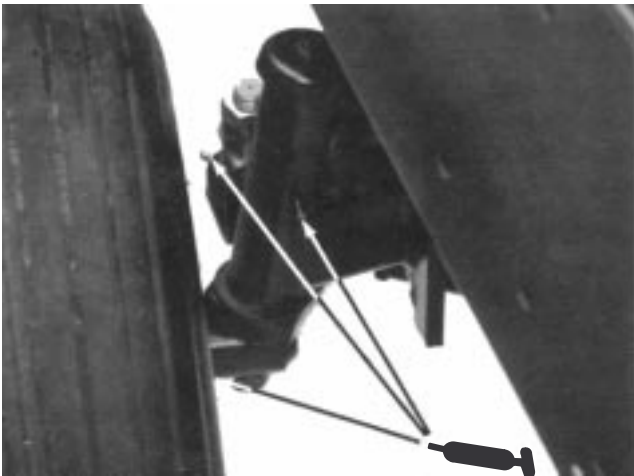

Figure 33
- Rear wheel spindle bushings (Fig. 33)